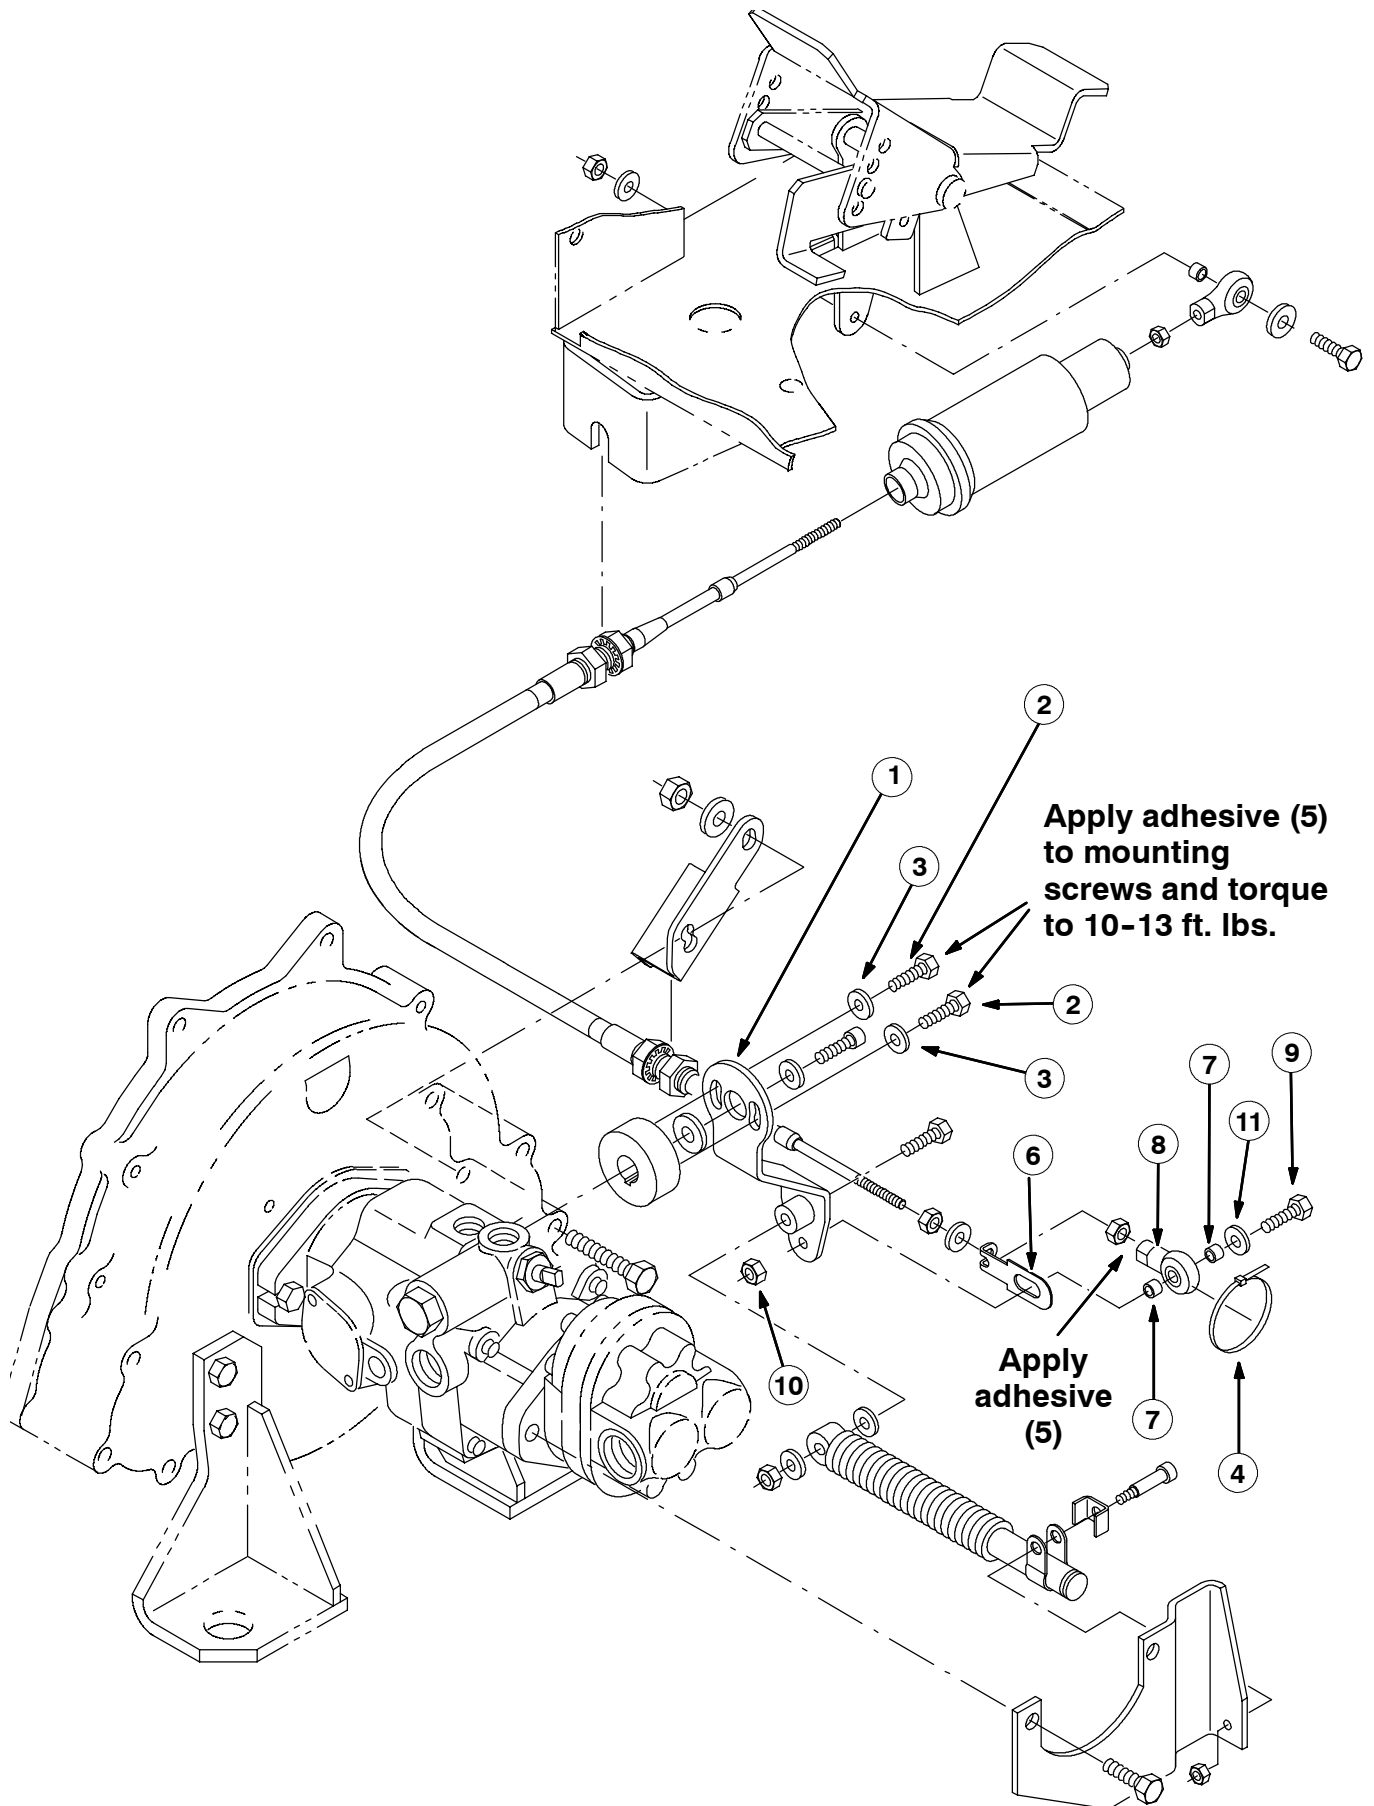

FIG. 3 - NEW PINTLE LEVER INSTALLATION
6. Install new pintle lever (1) with washers (3) and bolts (2) using adhesive (5). (Refer to FIG. 3)
7. Remove the rod end from the cable only if there is a problem with it (i.e. the rod end is worn or loose on the cable). Note the thread engagement before removal. Install the new rod end (8) and safety clip (6).
8. Apply adhesive (5) into the rod end threads and reassemble the rod end (8) to the original position. Tighten the jam nut.
9. Secure the rod-end and bracket, on the end of the push pull cable with a wire tie (4). (Refer to FIG. 3)
10. Connect the push-pull cable to the bottom of the new pintle lever (1) with the new spacers (7) and mounting hardware (9), (11) and (10). (Refer to FIG. 3)
11. Connect the shock absorber to the new pintle lever (1) with the set aside mounting hardware. (Refer to FIG. 3)